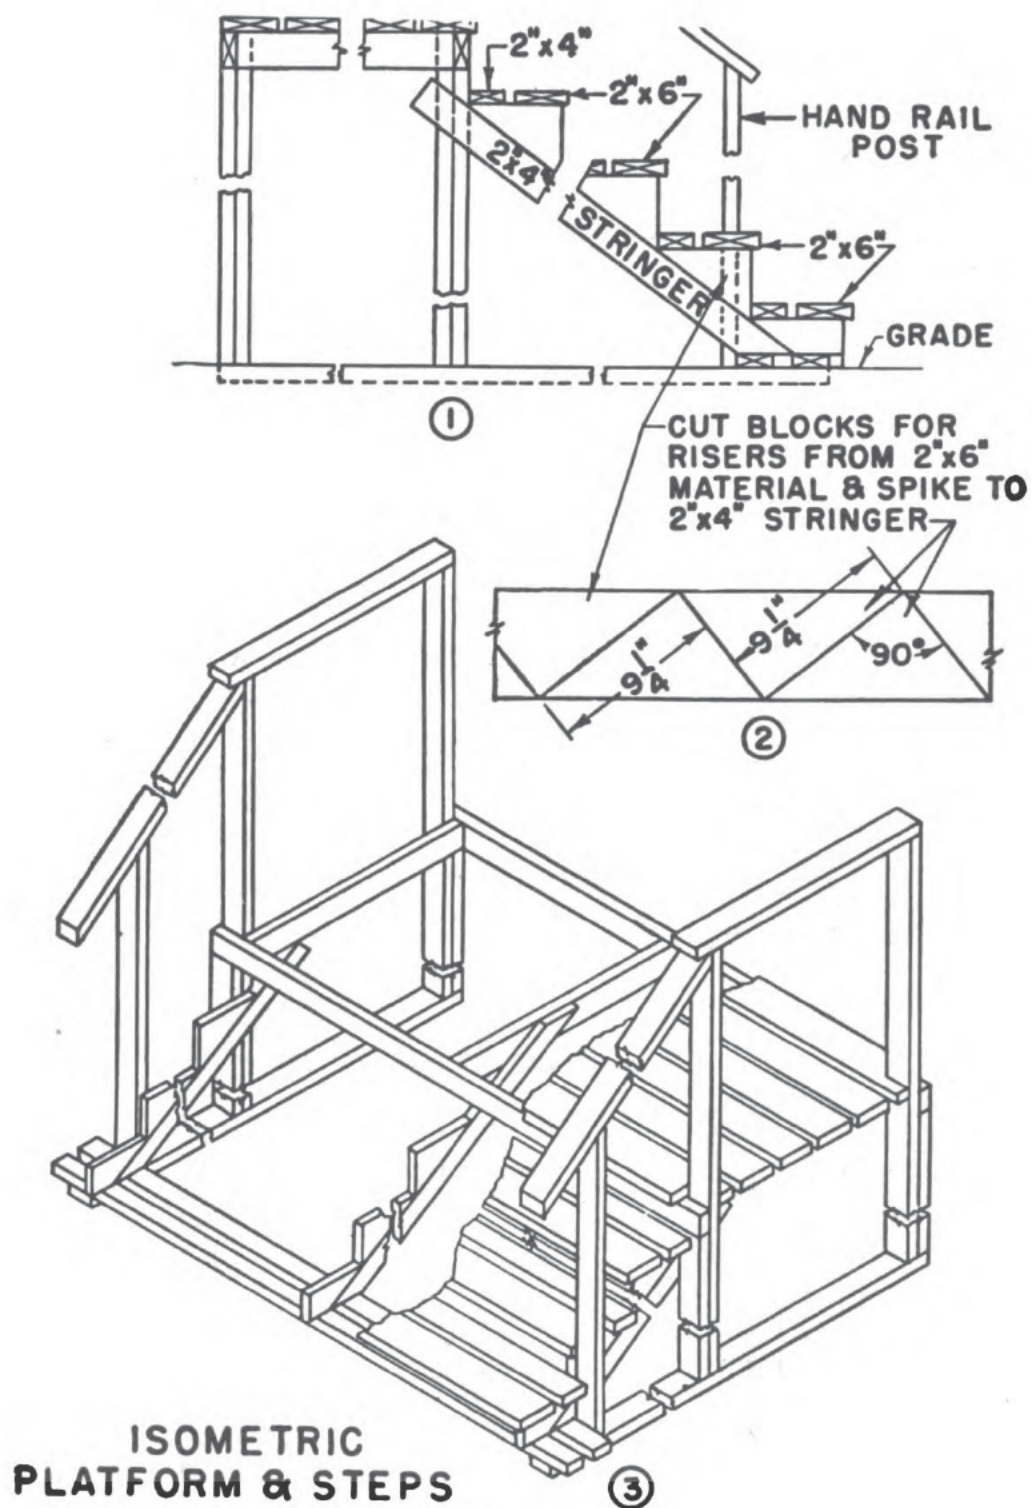
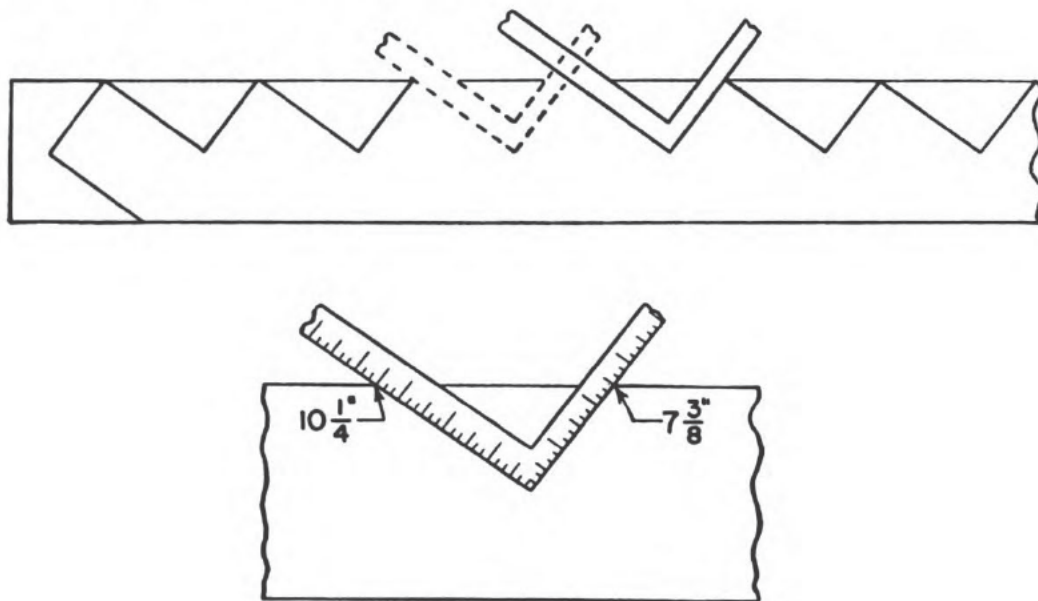

Figure 13-13.—Step details.
Figure 13-14.—Method of laying out step.
In overseas construction, you may sometimes build step or stair stringers with 2 x 4's by nailing triangular blocks to one edge to form the stringer. Cut the blocks from 2 x 6's, as shown in figure 13-13 (2), and then fasten them to the 2 x 4, as indicated in figure 13-13 (1). The step stringers are secured at the top and bottom as
shown in figure 13-13 (1). In figure 13-13 (3), a method for installing the foundation is clearly shown. Notice in the same figure, the details of the sizes of the step treads, handrails, and posts. Construction and method of installing are also illustrated. When you use 2 x 10's or 2 x 12's for stringers, lay them out with the steel square, as indicated in figure 13-14.